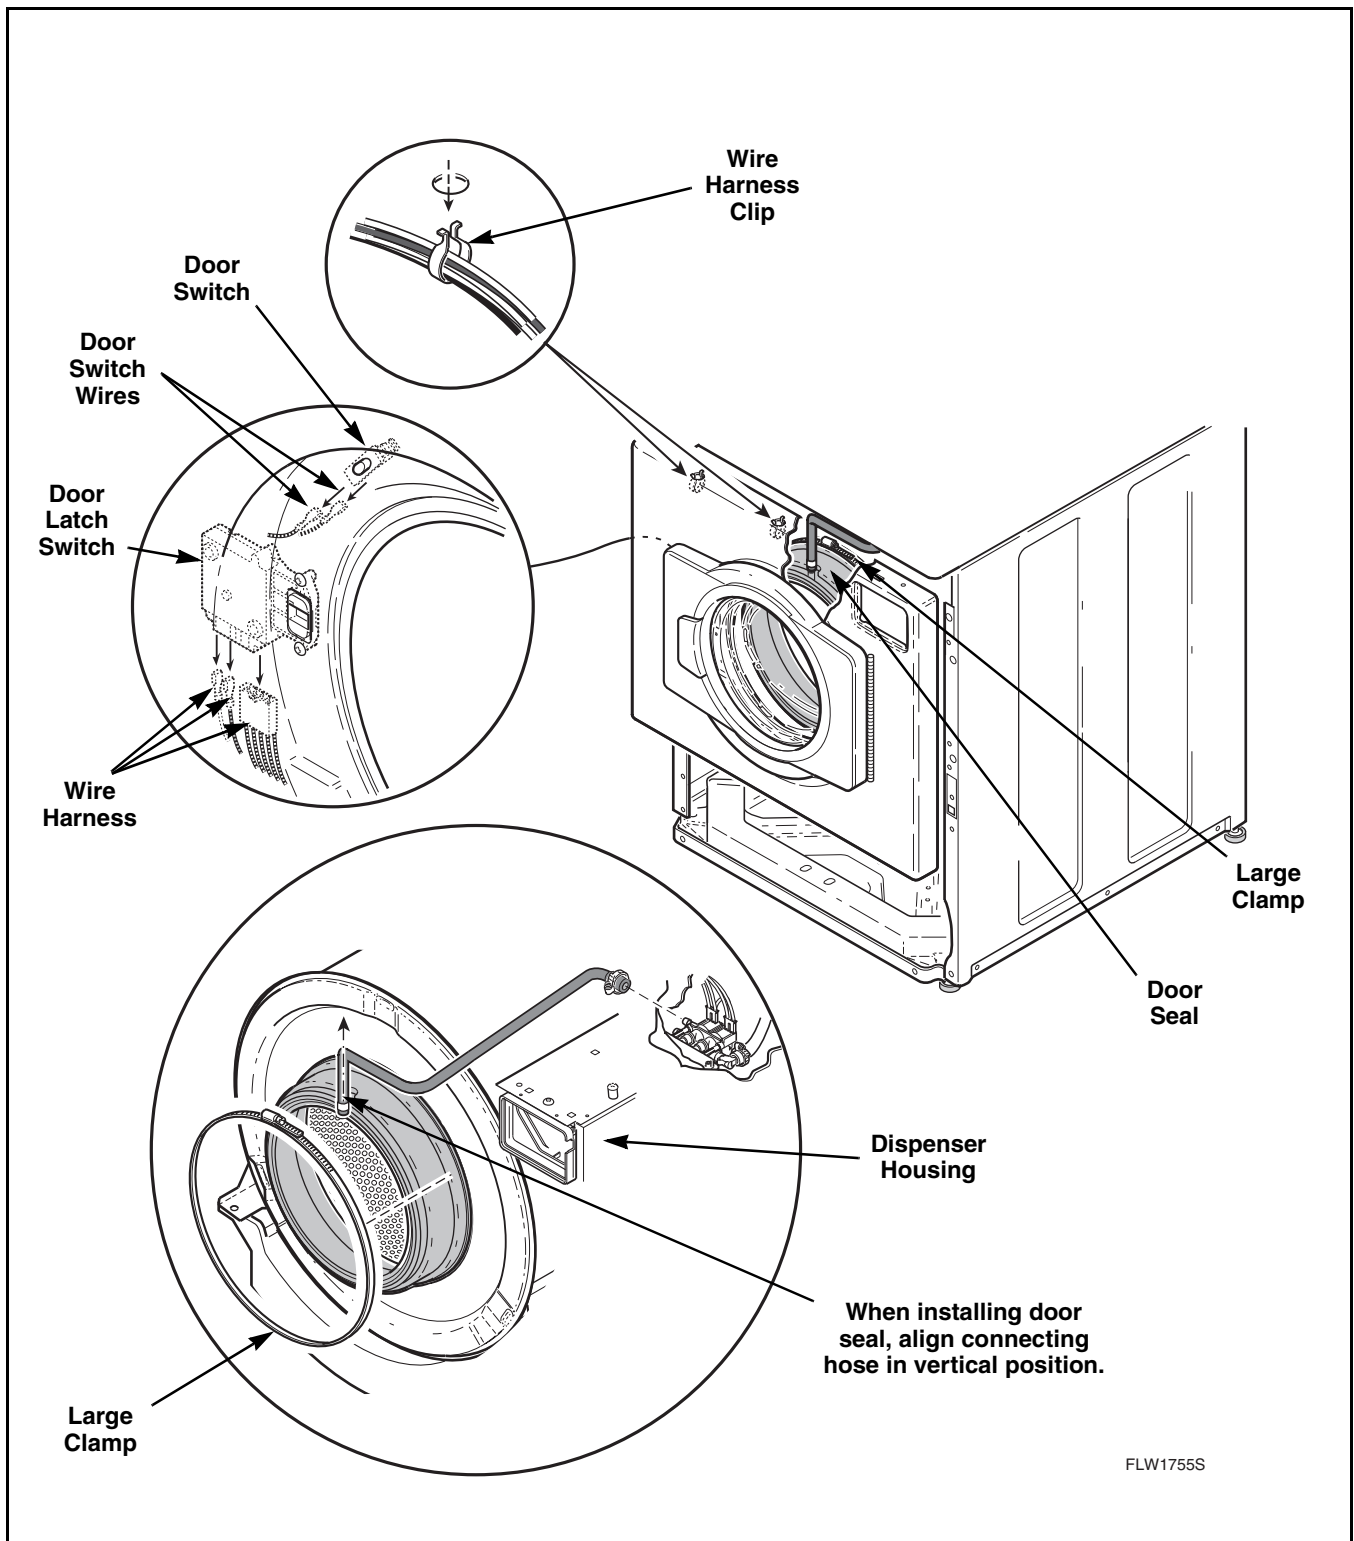

Figure 18
- k. Unplug wire harness from both the door latch switch and from the door switch. Refer to *Figure 18*. Remove clips holding wire harness and door seal hose along top flange of front panel and remove front panel.
NOTE: Door seal hose and wire harness must be reinstalled in the appropriate clips and holes along top flange of front panel. Refer to *Figure 18*.
- i. Unplug wire harness from both the door latch switch and from the door switch. Refer to *Figure 18*. Remove clips holding wire harness and door seal hose along top flange of front panel and remove front panel.
NOTE: The large wire clip holds both the wire harnesses and the door seal hose. Refer to *Figure 18*.
- k. Loosen hose clamp and remove dispenser valve-to-door seal hose connection at the dispenser. Refer to *Figure 18*.
IMPORTANT: When installing door seal hose, pull hose tie tight to prevent damage. Refer to *Figure 18*.
1. Loosen large clamp holding door seal to front of outer tub. Carefully pull seal off front lip of outer tub front panel and remove door seal and hose. Refer to *Figure 18*.
- f. Reach up between door seal and front panel. Refer to *Figure 18*. Press in on switch locking tabs and push switch out through front panel only far enough to allow removal of wires from switch terminals.
- f. While supporting door lock from the back (through door opening), remove two Phillips head screws holding door latch switch to front panel. Refer to *Figure 18*.
- g. Gently pull door lock out through door opening. Remove door lock only far enough to disconnect harness connector from door lock. Refer to *Figure 18*.